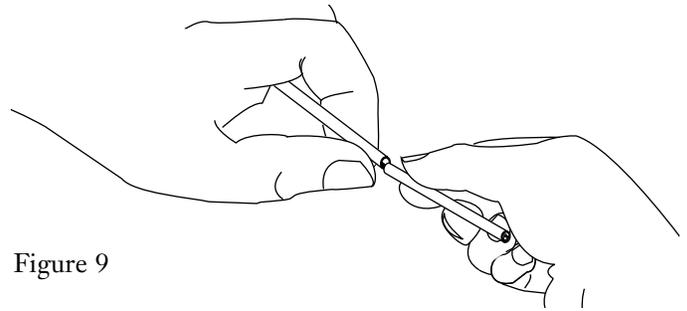

Figure 9
- Carefully flex the cable sheath to break it at the score point (Figure 9).